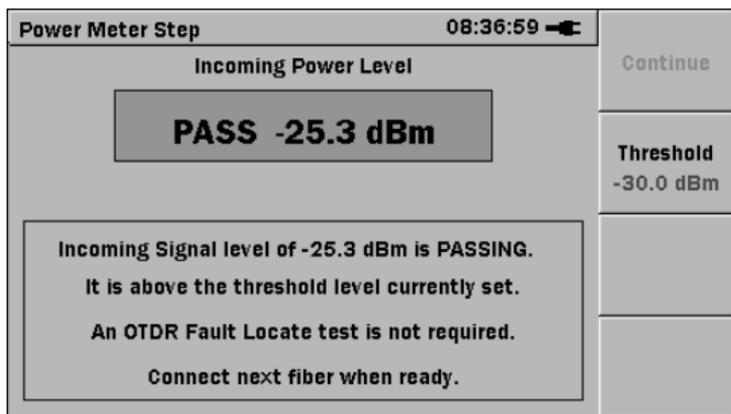
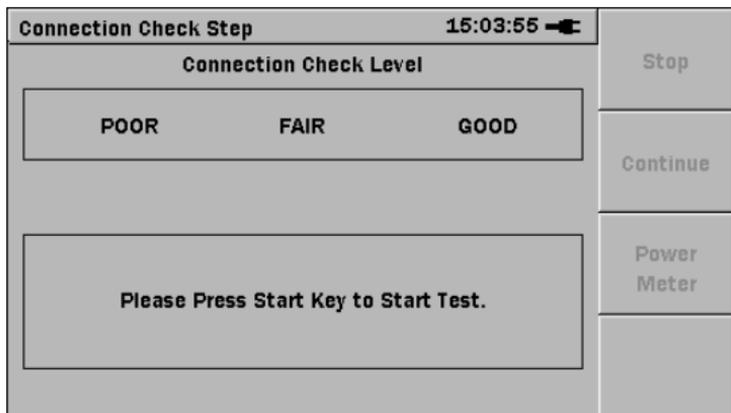
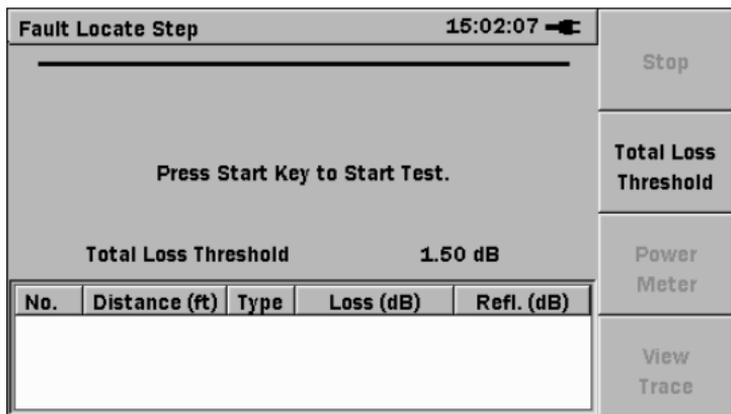

Figure 4-1: Power Meter Step Screen
Figure 4-2: Initial Connection Check Step Screen
Figure 4-3: Initial Fault Locate Step Screen
- When the Connection Check Step is enabled and the Power Meter Step is disabled (or the unit is not equipped with a Power Meter), the screen shown in Figure 4-2 on page 4-3 appears at the conclusion of the self-test.
- When the Connection Check Step and the Power Meter Step are disabled (or the unit is not equipped with the optional Power Meter) on the Preferences Setup screen, the initial Fault Locate Step screen, shown in Figure 4-3 appears at the conclusion of the self-test.
If a screen similar to the ones shown in Figure 4-1, Figure 4-2 or Figure 4-3 does not appear after powering up, the unit may have failed. Run the unit through a power cycle (power down / power up). If the problem persists, contact the Anritsu Technical Support Center or your local Anritsu representative (see “Anritsu Corporation Contact” on page xix).